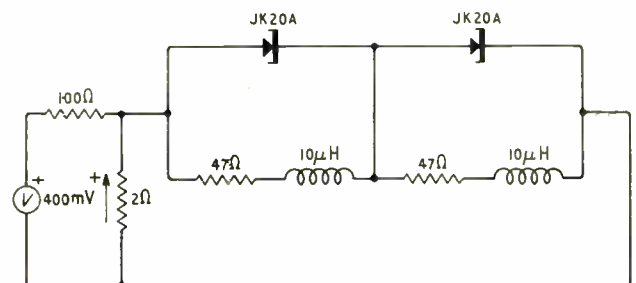

Fig. 32. Practical circuit tested
Fig. 32 shows the circuit examined, where $V = 400$ mV and $R = 47$ ohms as selected above, and L is selected as $10 \mu\text{H}$. From equation (17), the half-period of oscillation t_1 is